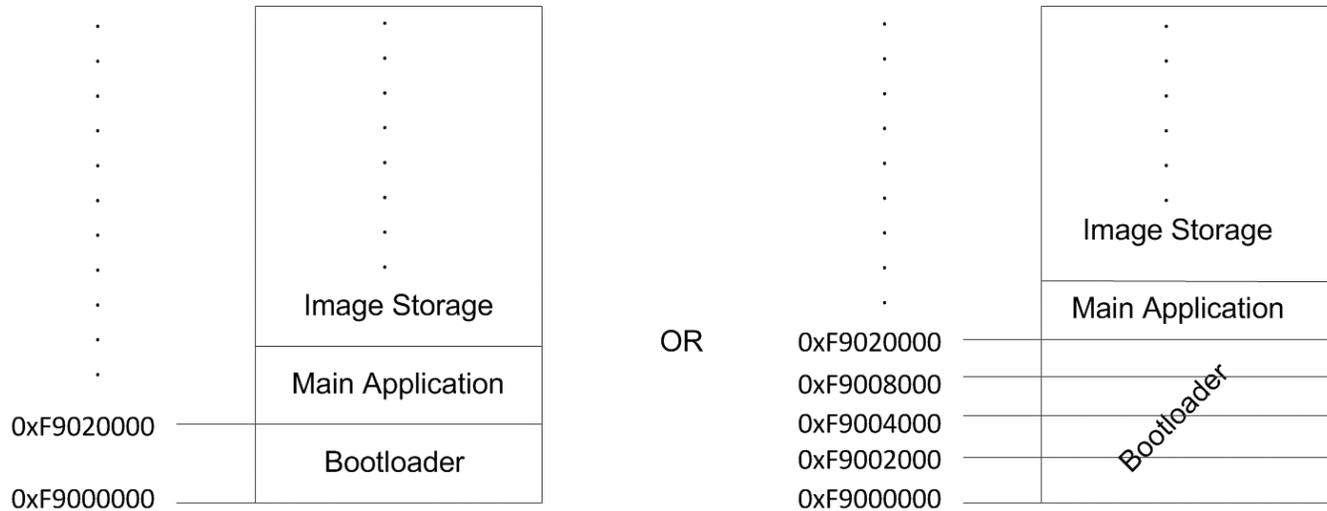

Figure 32. Boot Flash Memory Layout
All applications require both the controller and DMD components for reliable operation. The system uses an external parallel flash memory device loaded with the DLPC900 configuration and support firmware. The external boot flash must contain a minimum of 2 sectors, where the first sector starts at address 0xF9000000 which is the power-up reset start address. The first 128 kB is reserved for the bootloader image and must be in its own sector and can be made up of several smaller contiguous sectors that add up to 128 kB as shown in Figure 32. The remaining sectors contains the rest of the firmware. The default wait-states is set for a flash device of 120-ns access time. For a faster flash access time, refer to the Program Memory Flash Interface on how to program new wait-state values.
- PM\_CSZ\_1 – dedicated CS for boot flash device (≤ 128 Mbit). Refer to the Figure 32 for the memory layout of the boot flash.